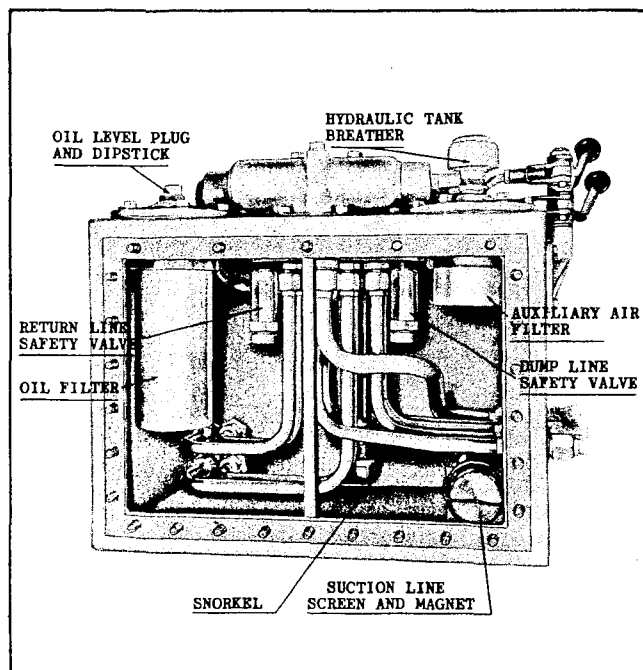

FIG. 15 – HYDRAULIC TANK
- A. Oil Filter – Located as shown in Figure 15, has a micronic element which should be replaced every 100 hours of operation or more often if conditions warrant. With oil at operating temperature, all oil is 100% filtered.